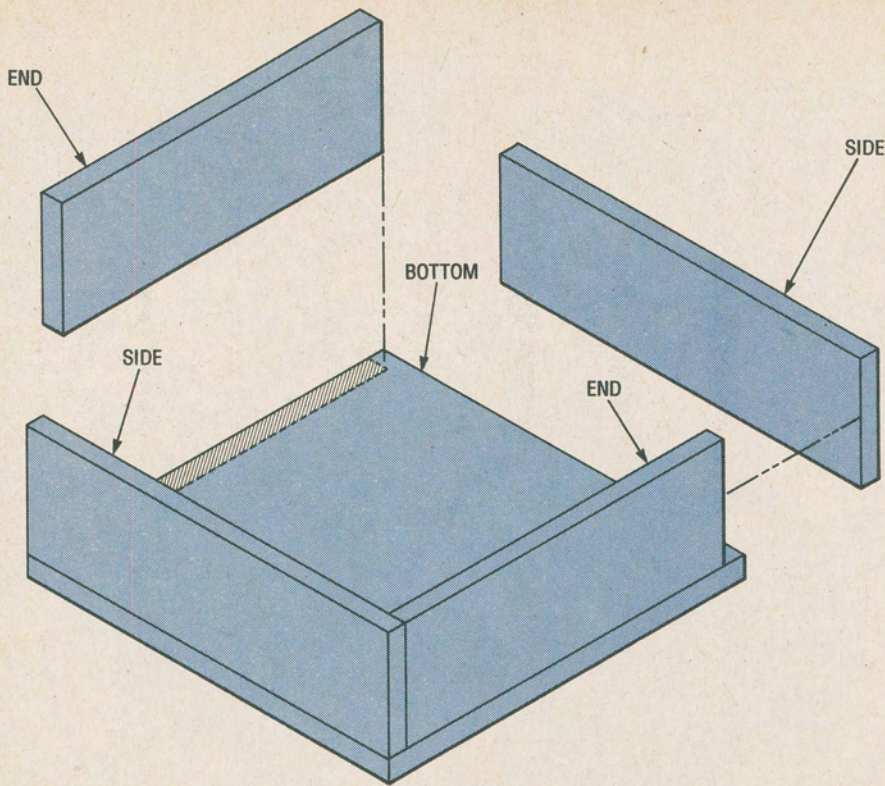

Fig. 1. A simple enclosure consists of six parts: a removable top and a stationary bottom, two sides, and two ends.
**What Size Enclosure?** The most rudimentary element of enclosure fabrication is knowing what size enclosure is required. It may seem silly to make such a point, but a great deal of plastic can be turned into scrap by ignoring that simple principle. A basic enclosure consists of six parts: the top and bottom, and two sides and two ends. The sides and ends (as shown in Fig. 1) are glued to the bottom, and the top is removable.